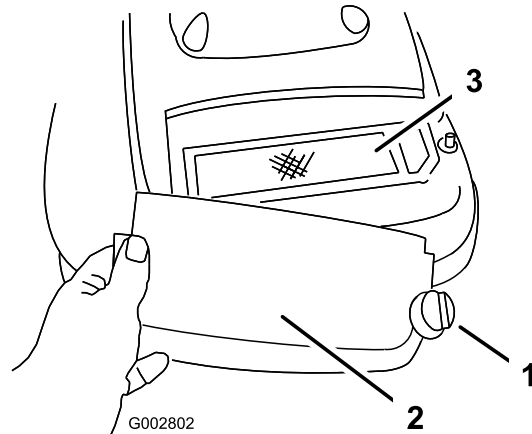

Figure 26
3. Remove the screw that secures the air cleaner cover (Figure 26).
4. Remove the cover and clean it thoroughly (Figure 26).